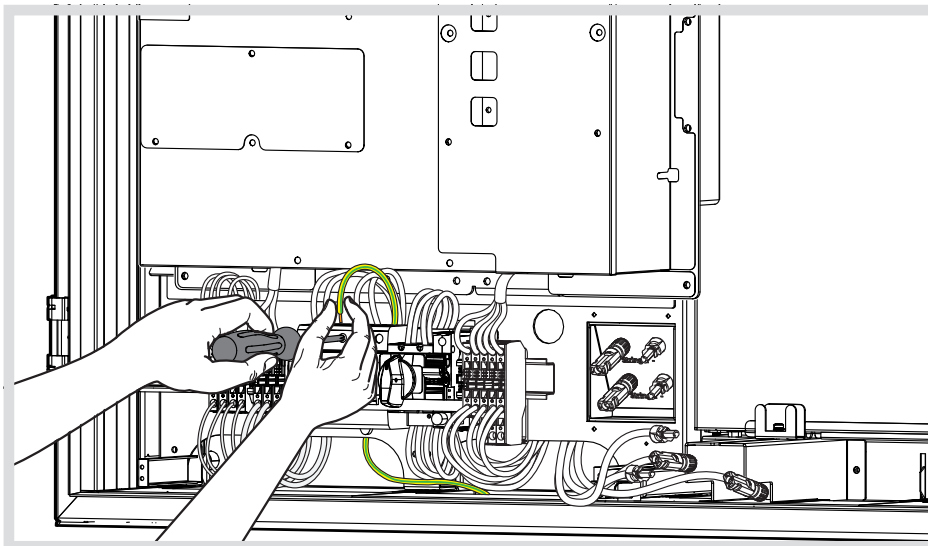

Figure 29: Connection of the earth conductor to the overvoltage protection
- Connect the 6 mm2 earth conductor from the potential equalisation to the overvoltage protector using Pozi-Drive screwdriver size 2 (Figure 29).